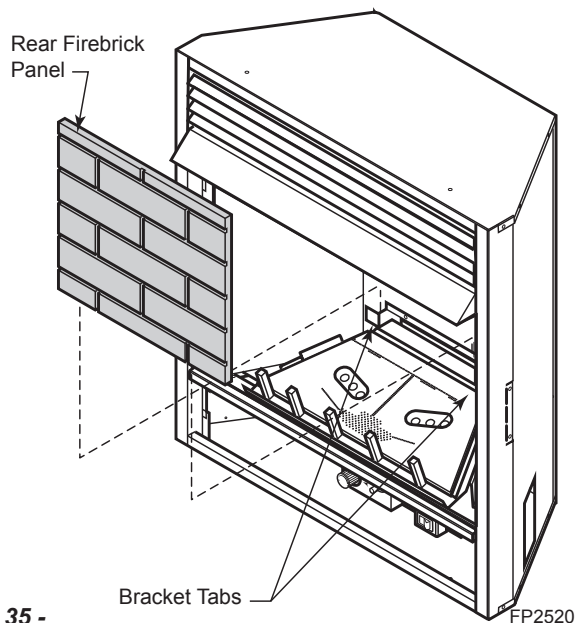

Figure 35 -
4. Place rear firebrick panel on back wall of firebox. Set bottom of panel behind the bracket tabs of the grate. *Figure 35*